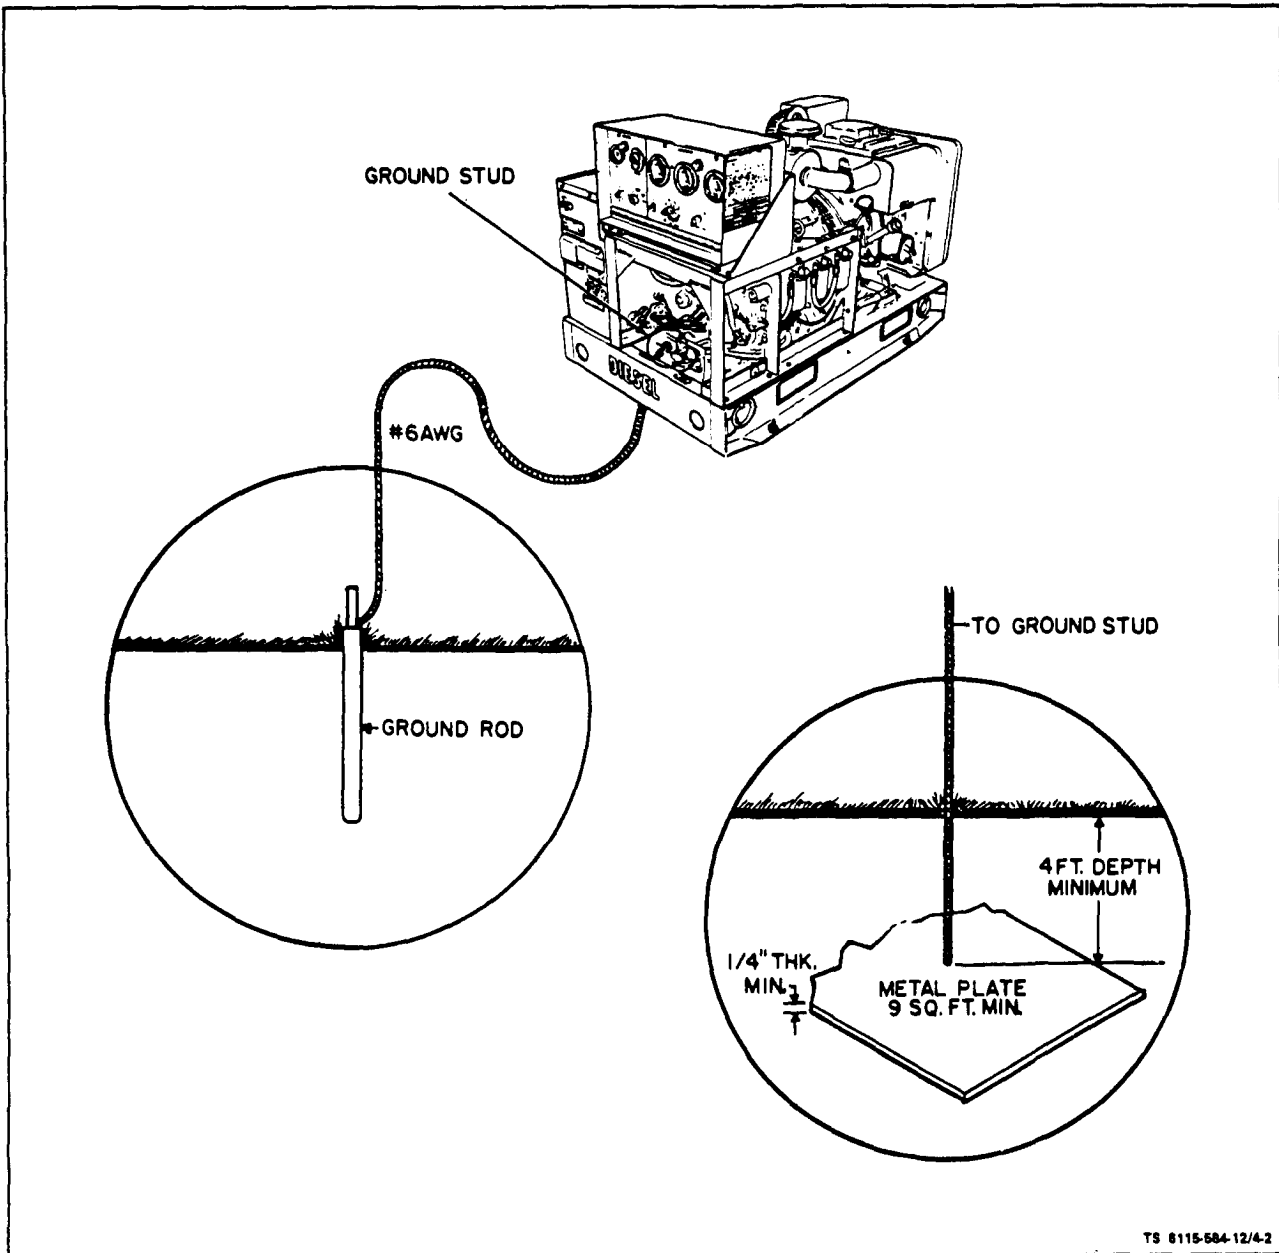

Figure 4-2. Grounding Generator Set
e. Grounding. The Generator Set must be grounded prior to operation. The ground can be, in order of preference: (1) an underground metallic water piping system, (2) a driven metal rod, or (3) a buried metal plate (figure 4-2). If the effectively grounded portion of the buried metallic water pipe is less than 10 feet due to insulated sections or joints, this preferred